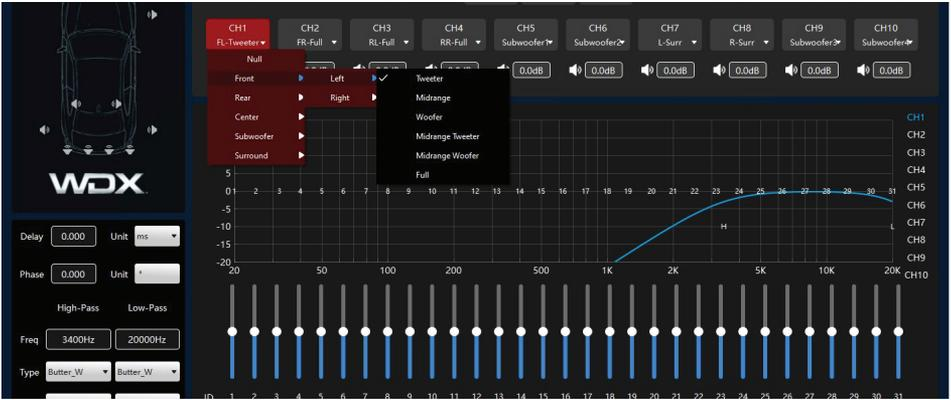
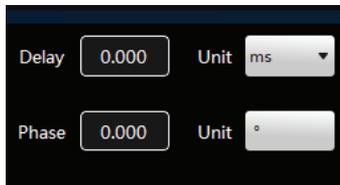

FIGURE 3.3.6
FIGURE 3.3.7
**The second step:** Below each channel number, click the type drop-down menu, then select the desired speaker type from the pop-up list. See Figure 3.3.6 for reference.
**5. The output delay adjustment, Figure 3.3.6,** Click the input box of the corresponding channel delay and input the delay value. The left side can set the delay value unit in Figure 3.3.7